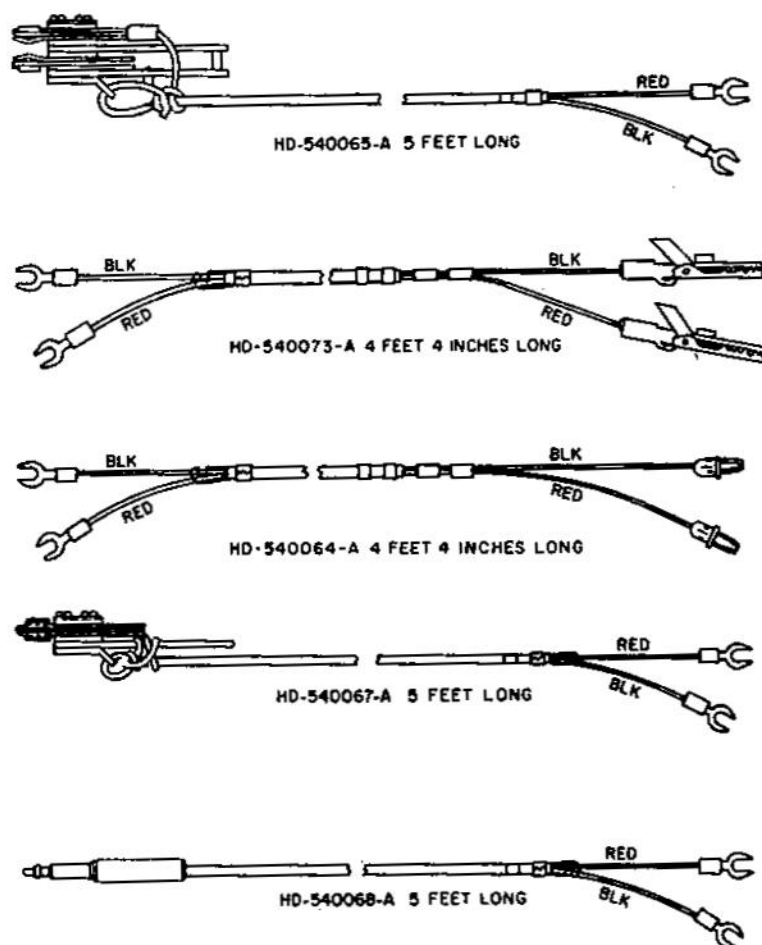
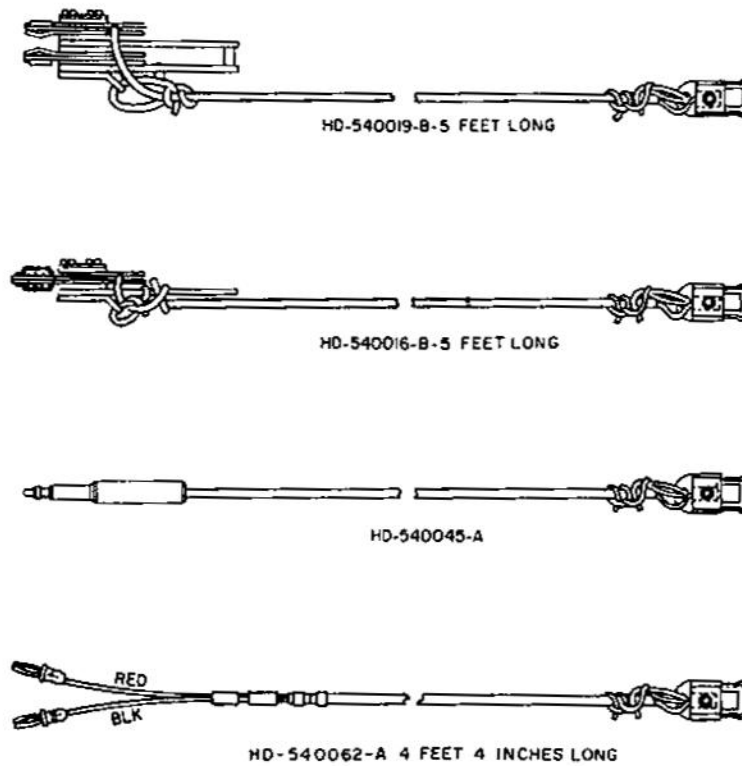

Figure 1. Miscellaneous Test Cords.
Figure 2. Central Office Test Cords.
2.02 The Type 800 can use all of the spade-terminated cord assemblies associated with the Type 801 (Figure 1 and Table 1). The Type 800 can be used with the central office test cords referred to in Figure 2 and Table 2, but certain modifications are necessary to offer this capability.
HD-540073-A	A 4-foot 4-inch-long, two-conductor cord, equipped with insulation-piercing alligator clips at one end and spade terminals at the other end (Figure 2).
HD-540067-A	A 5-foot-long, two-conductor cord (Figure 2), one end terminated with a two-contact plug for insertion into switch test jacks, the other end is terminated with spare terminals.
HD-540064-A	A 4-foot 4-inch-long, two-conductor cord (Figure 2), one end terminated with banana plugs, the other end with spare terminals.
HD-540068-A	A 5-foot-long, two-conductor cord; one end terminated with a switchboard type plug, the other end terminated with spare terminals (Figure 2).
HD-540065-A	A 5-foot-long, two-conductor cord, one end terminated with a four-contact plug (Figure 2) for insertion into switch test jacks, the other end terminated with spade terminals. A pushbutton on the four-contact plug is used to short two of the contacts on the switch being tested.